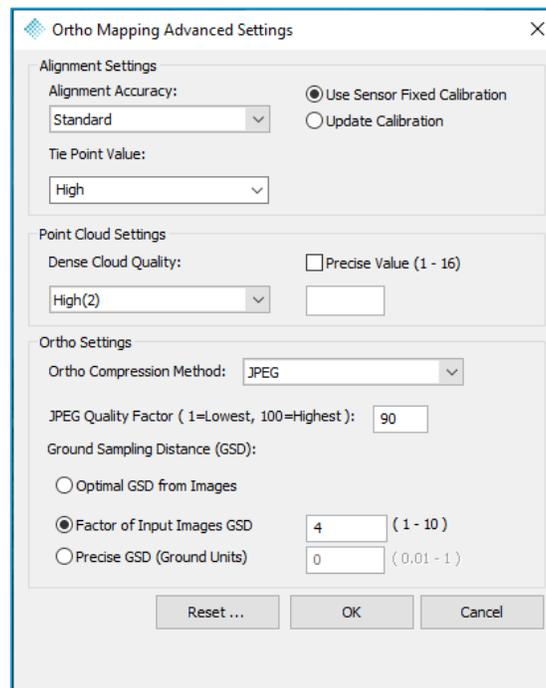

Figure 109 - Ortho Mapping Advanced Settings dialog
- e. **Advanced Settings** – Opens the Ortho Mapping Advanced Settings dialog (Figure 109) (Figure 113)
The most commonly configurable Ortho Mapping settings are configured on the Ortho Mapping Advanced Settings dialog (Figure 109). The defaults are the recommended settings, though users may wish to modify for their personal preferences.